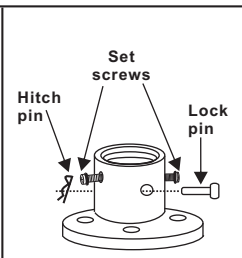

Figure 6
**Step 2.** Loosen the two set screws and remove the hitch pin and lock pin in the top coupling of the motor assembly. (Fig.6)